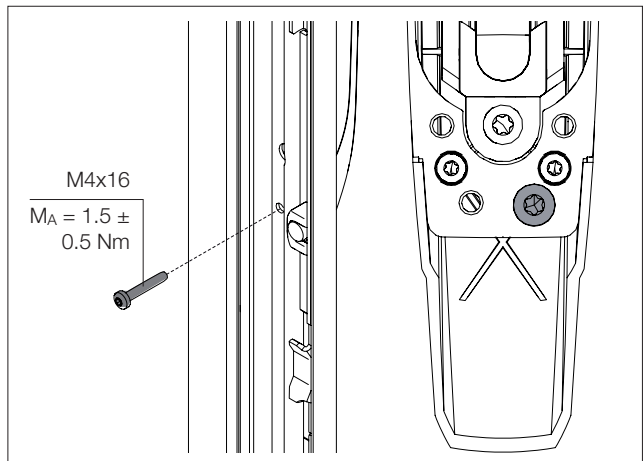
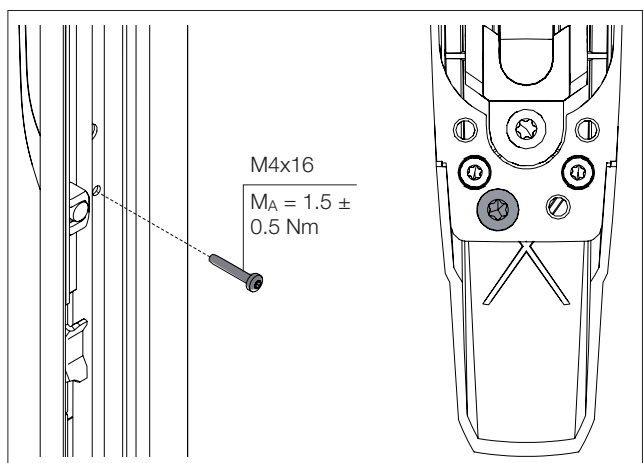

Fig. 15: Screw-fastening the comfort handle (hinge on right)
Fig. 16: Screw-fastening the comfort handle (hinge on left)
- Screw the comfort handle to the VX glazed door, depending on the position of the hinge (fig. 15 or fig. 16, $M_A = 1.5 \pm 1 \text{ Nm}$).